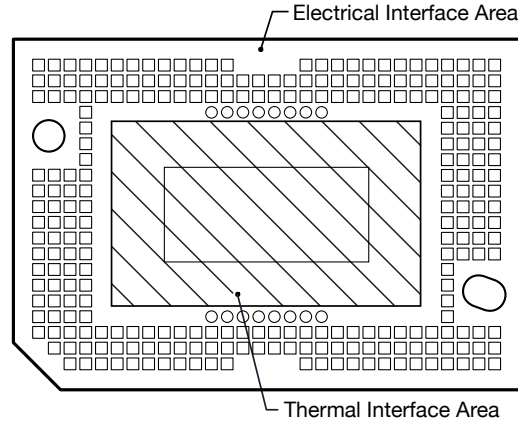

图 5-7. System Mounting Interface Loads
(1) Uniformly distributed within area shown in 图 5-7